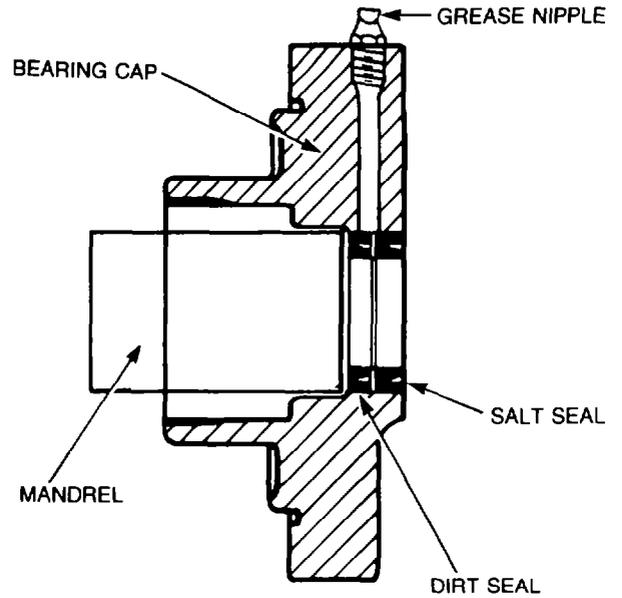

Figure 287 — Seal — Installation
- e. Insert a suitable mandrel 41.02 mm (1.615 in.) in diameter through the bearing end of the bearing cap until it seats against the internal shoulder in the cap (see Fig. 287). Then position the bearing cap and mandrel on a suitable press and install the dirt seal, with the lip uppermost, into the housing until it seats against the mandrel.